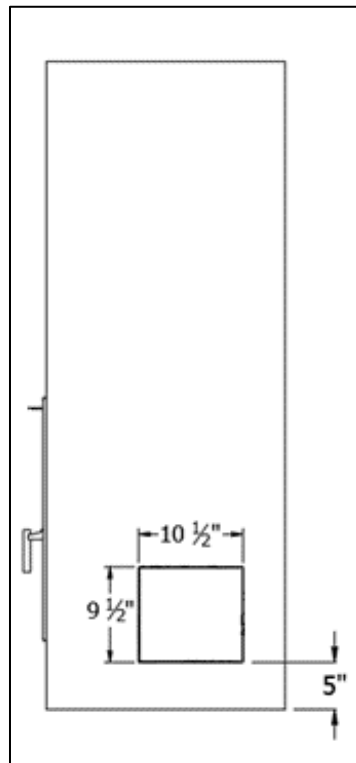

Figure 3-36 Opening for Air Intake Two Required
- Determine the two locations of the air intakes on the chase and cut the rectangular openings of 10.5" (W) X 9.5" (H) (Figure 3-36).